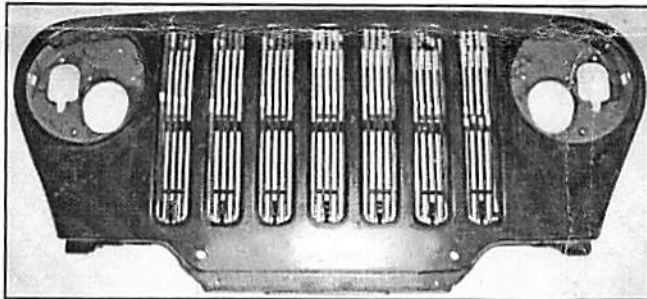

Figure 2 – Front view of positioning the billet grille onto grille shell
4. Position the seven Billet Grilles onto grille shell cavity (Figure 2)
6. Repeat Steps 5 for the rest of Billet Grilles (Figure 2).